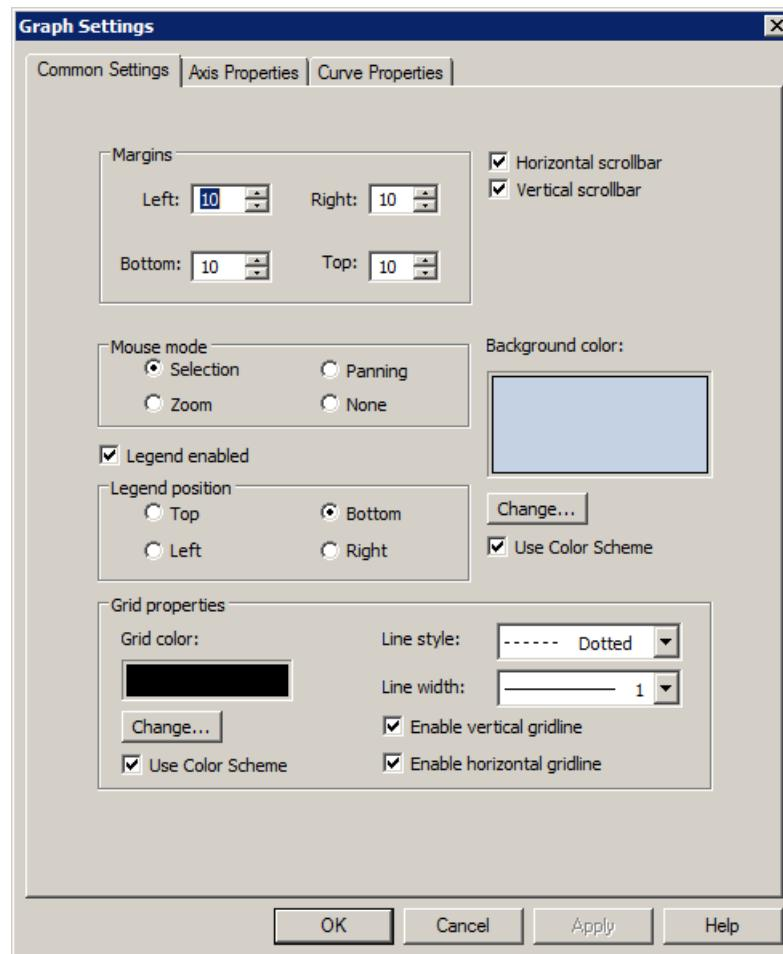

Figure 123: Graph Settings dialog
1. In the Trends Display, select **Settings/Display Settings/Graph Settings...** or select  **Graph Settings...** on the toolbar. The dialog opens, see Figure 123.
1. In the Trends Display, select **Settings/Display Settings/Graph Settings...** or select  **Graph Settings...** on the toolbar. The Graph Settings... dialog opens, see Figure 123.